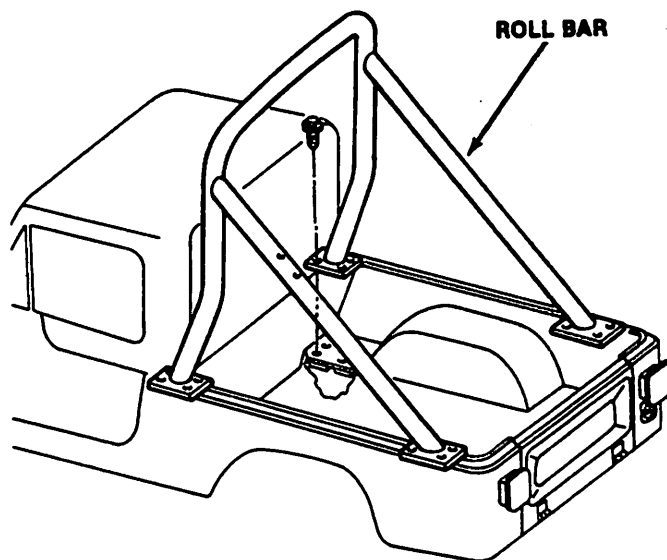

Fig. 3F-26 Roll Bar—Scrambler
- (1) Remove spare tire from roll bar, if equipped.
- (2) Remove wood side rails from both sides of cargo box, if equipped.
- (3) Remove roll bar attaching bolts (fig. 3F-26).
- (4) Remove roll bar from vehicle using chain hoist or with aid of helper.